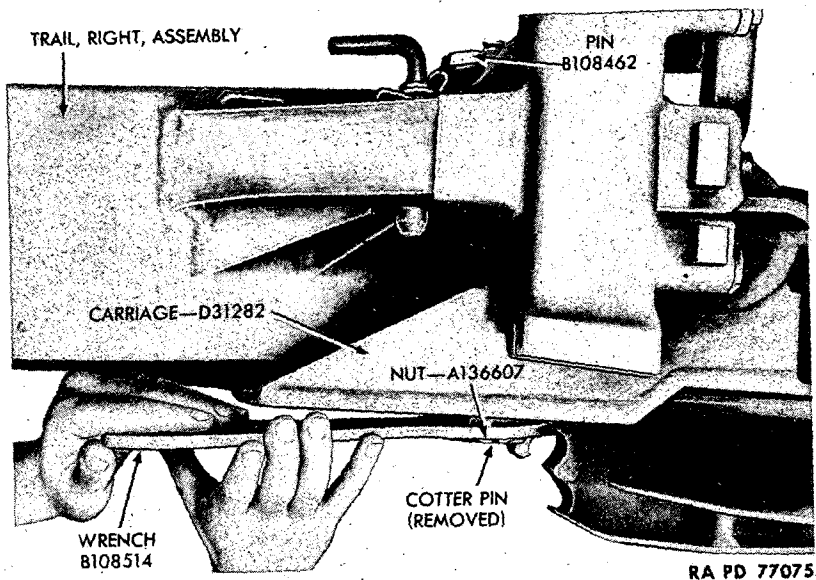

Figure 135—Removing Trail Hinge Pin
(7) REMOVAL OF TRAILS (figs. 135 and 136).